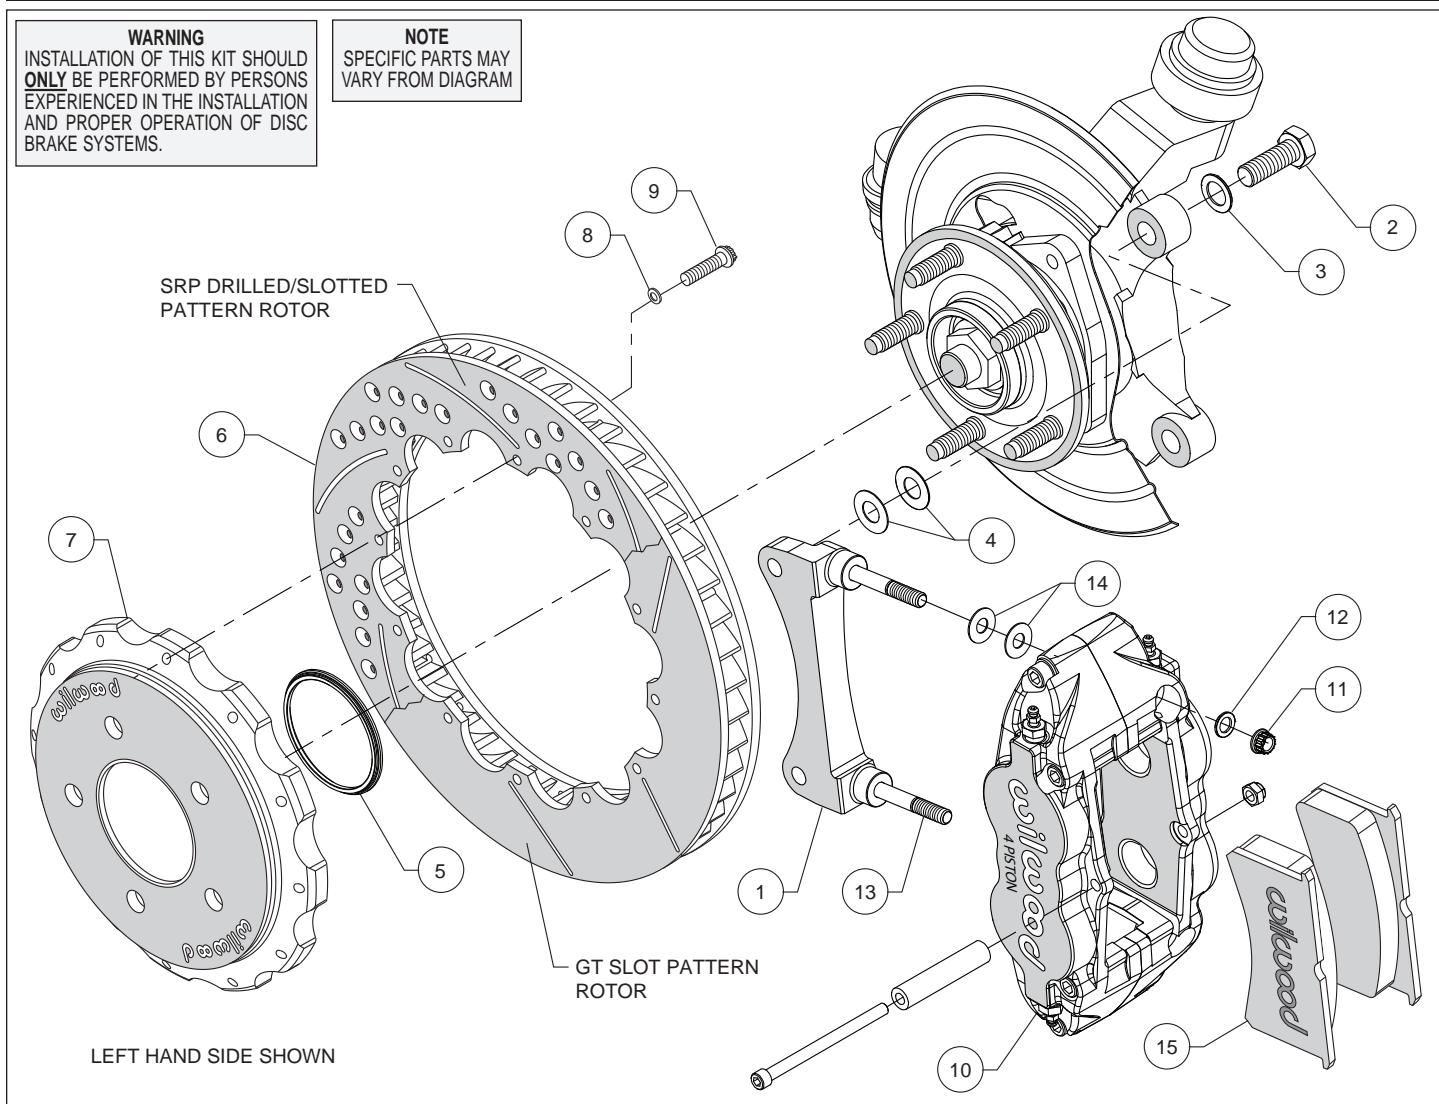
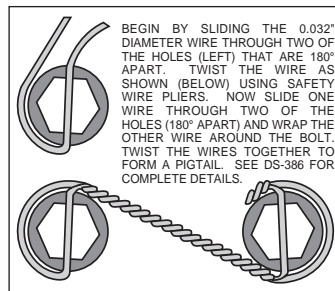

Figure 1. Typical Installation Configuration
Figure 3. Safety Wire Diagram
Assembly Instructions (numbers in parenthesis refer to the parts list and Figure 1 on the preceding pages):
- The caliper mount bracket (1) should initially be installed with clean, dry threads on the mounting bolts. Orient the bracket as shown in Figure 1 and Photo 1 and install using mount bolts (2) and washers (3). Initially place two .029" thick shims (4) on each bolt between the bracket and upright, Figure 1. Temporarily tighten the mounting bolts. **NOTE:** *The bracket must fit squarely against the mount bosses on the upright.* Inspect for interference from casting irregularities, machining ridges, burrs, etc. Later, after the caliper alignment has been checked, the mount bolts will be secured using red *Loctite*® 271.
- Orient the rotor (6) and the hat (7) as shown in Figure 1 and Photo 2. Attach rotor to hat using bolts (9) and washers (8). Using an alternating sequence, apply red *Loctite*® 271 to the threads, and torque to 155 **in-lbs**. For an added measure of security, the bolts may be safety wired using standard 0.032 inch diameter stainless steel safety wire as shown in Figure 3. Please refer to Wilwood's data sheet DS-386 (available at www.wilwood.com/Pdf/DataSheets/ds386.pdf) for complete safety wire installation instructions.
- Lubricate the caliper mounting studs (13) with lightweight oil. Initially place two .035" thick shims (14) on each stud as shown in Figure 1 and Photo 7. Mount the caliper (10) onto the bracket (1) using lock nuts (11) and washers (12), Figure 1. Temporarily tighten the lock nuts and view the rotor through the top opening of the caliper. The rotor should be centered in the caliper, Photo 8. If not, adjust by adding or subtracting shims (4) between the bracket and the upright. Always use the same amount of shims on each of the two mounting bolts. Once the caliper alignment is correct, remove the bracket mounting bolts one at a time, apply red *Loctite*® 271 to the threads, and torque to 75 ft-lb.